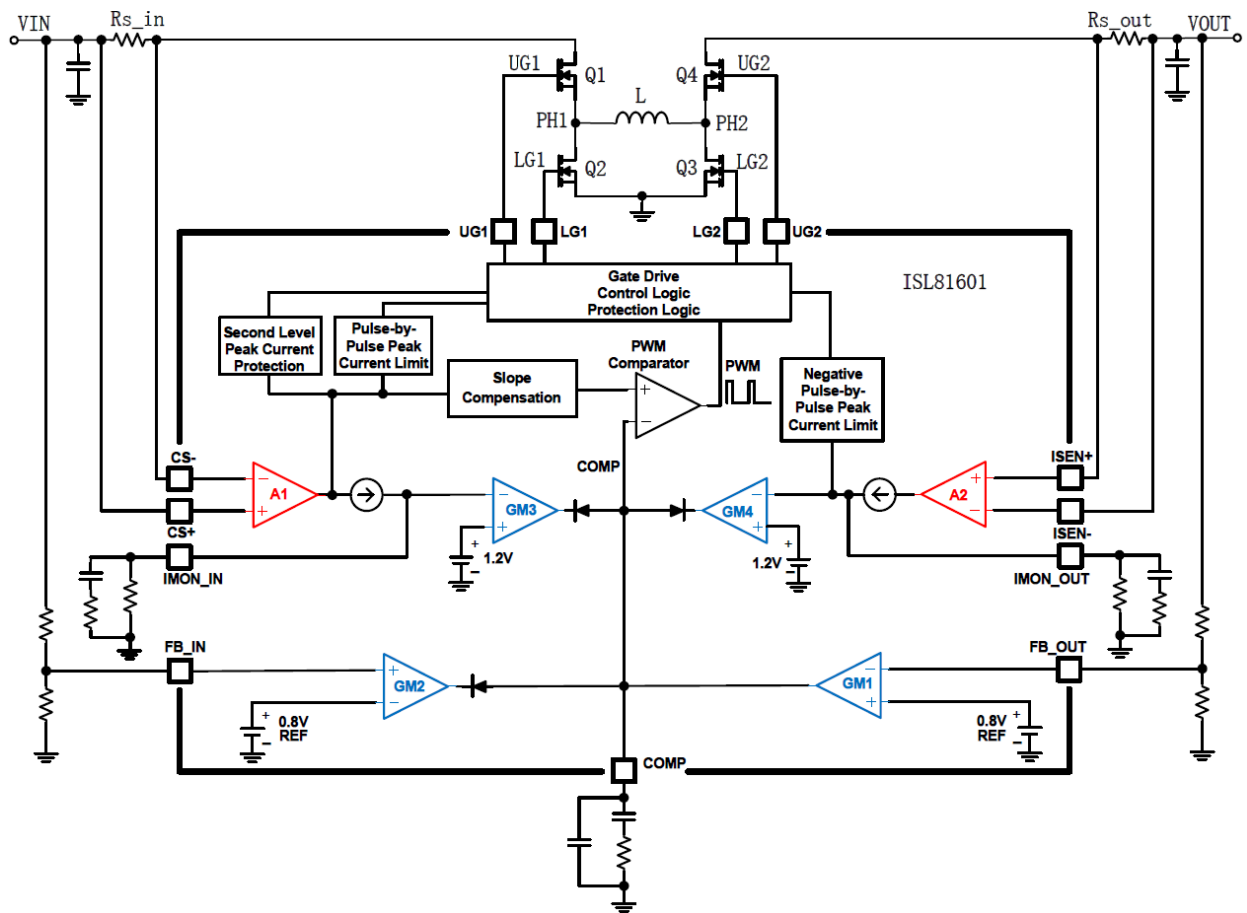

Figure 4. Input voltage, input current, output voltage and output current control loops
In a bidirectional DC/DC converter, controlling the input/output voltage and current is required. The ISL81601 integrates four control loops to regulate V_{in} , V_{out} , I_{in} , and I_{out} as shown in Figure 4. Gm1 senses V_{out} and regulates V_{out} in the forward direction to implement constant voltage (CV) output operation. A2 senses I_{out} via R_{s_out} . The average I_{out} is proportional to the voltage on the IMON_OUT pin. Gm4 regulates the average I_{out} to implement constant current (CC) output operation in the forward direction. A1 and Gm3 are used to sense and regulate average input current I_{in} in the forward direction. Gm2 senses and regulates V_{in} in reverse-direction operation.
In the supercapacitor DC backup system shown in Figure 2B, the DC/DC converter input V_{IN} shown in Figure 4 is connected to a 12V bus, and the output V_{OUT} is connected to the supercapacitor pack. In its forward power conversion direction, the converter charges up the supercapacitor when the AC line and 12V bus are available. The capacitor is charged in CC mode, controlled by the A2/Gm4 loop shown in Figure 4 when V_{OUT} is lower than the set point of the Gm1 voltage loop. When the capacitor V_{OUT} is charged up to the Gm1 voltage loop set point, the V_{OUT} is regulated and maintained at the set point. The converter runs in CV mode to keep the capacitor in a fully charged condition. In the forward direction, the ISL81601 provides pulse-by-pulse peak inductor current limit protection to ensure reliable operation in transient and short-circuit conditions. A second-level peak current protection is also provided to shut down the converter at output dead-short condition.